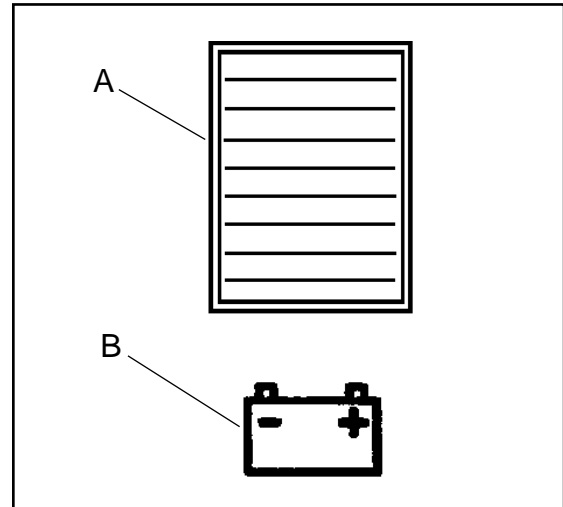

Figure 7
The battery meter (see figure 7) on the control panel has a digital read out with 10 fixed positions (A) and also a blinking indicator (B). The bars that appear on the display show the approximate charge level with icon (blinking) discharged battery.